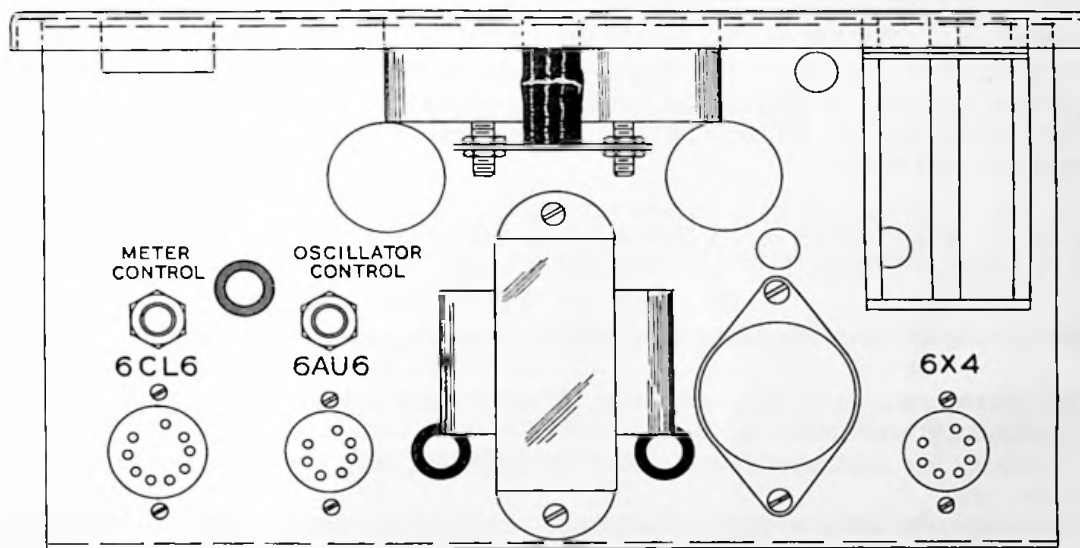

Figure 14
- () Install the 3 watt 115 volt candelabra lamp and the 6X4, 6AU6 and 6CL6 tubes in their proper sockets. See Figure 14.